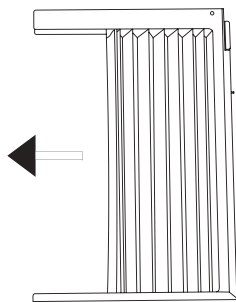

Fig.1
A. Hold the side Panel in one hand and gently pull back the center to free the open end. See Fig.1.